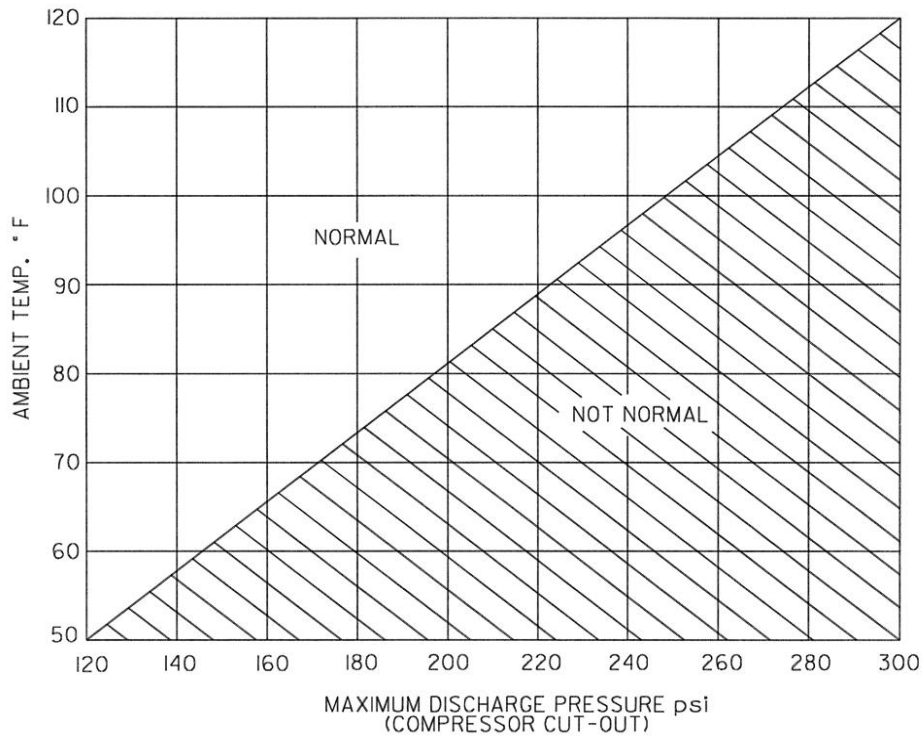

Figure 6
d) Check that compressor maximum discharge pressures are within the normal range shown in graph, Figure 6. The compressor minimum suction pressure will vary with ambient temperature but should be in the range of 10 to 20 psi under normal operating ambients. At 50° F ambient, the minimum suction pressure must not be below 4 psi.